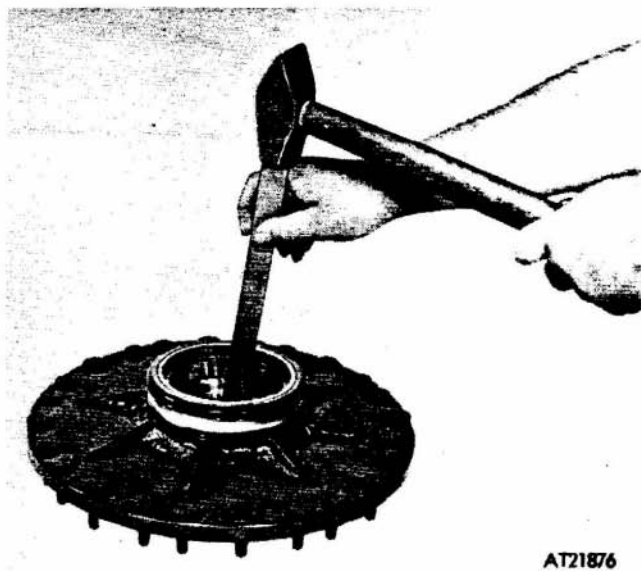

Figure 2-223. Hub forward seat wiper and bearing cone removal
(17) Remove hub assembly from spindle and place on suitable wooden blocks.
(18) Using a soft faced drift remove hub forward wiper ring and outer bearing cone (fig 2-223).